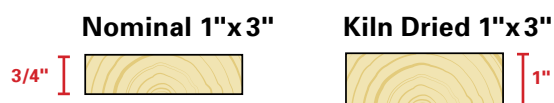

Fig. 6
- 1" x 3" or 1" x 4" Nominal strapping is allowed. **(Minimum 3/4" thick, See Figure 6)**
- 1" x 3" or 1" x 4" Kiln Dried strapping is mandatory. **(Minimum 1" thick, See Figure 6)**